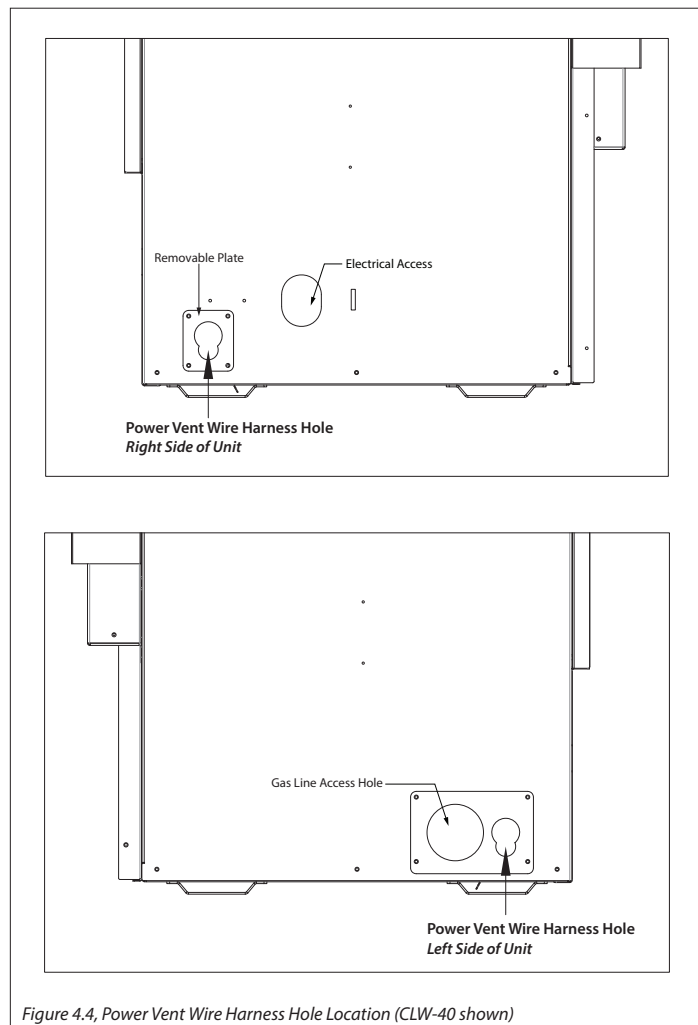

Figure 4.4, Power Vent Wire Harness Hole Location (CLW-40 shown)
1. Locate the power vent wire harness hole(s) on the fireplace. Your model may have one hole on one side of the fireplace, or one hole on either side of the fireplace. Plan accordingly when ordering your KPV wire harness. The power vent wire harness holes are located on a removable plate. Remove screws that attach the plate to the outer shell for easier access. Reattach the plate when finished. See Figure 4.4.